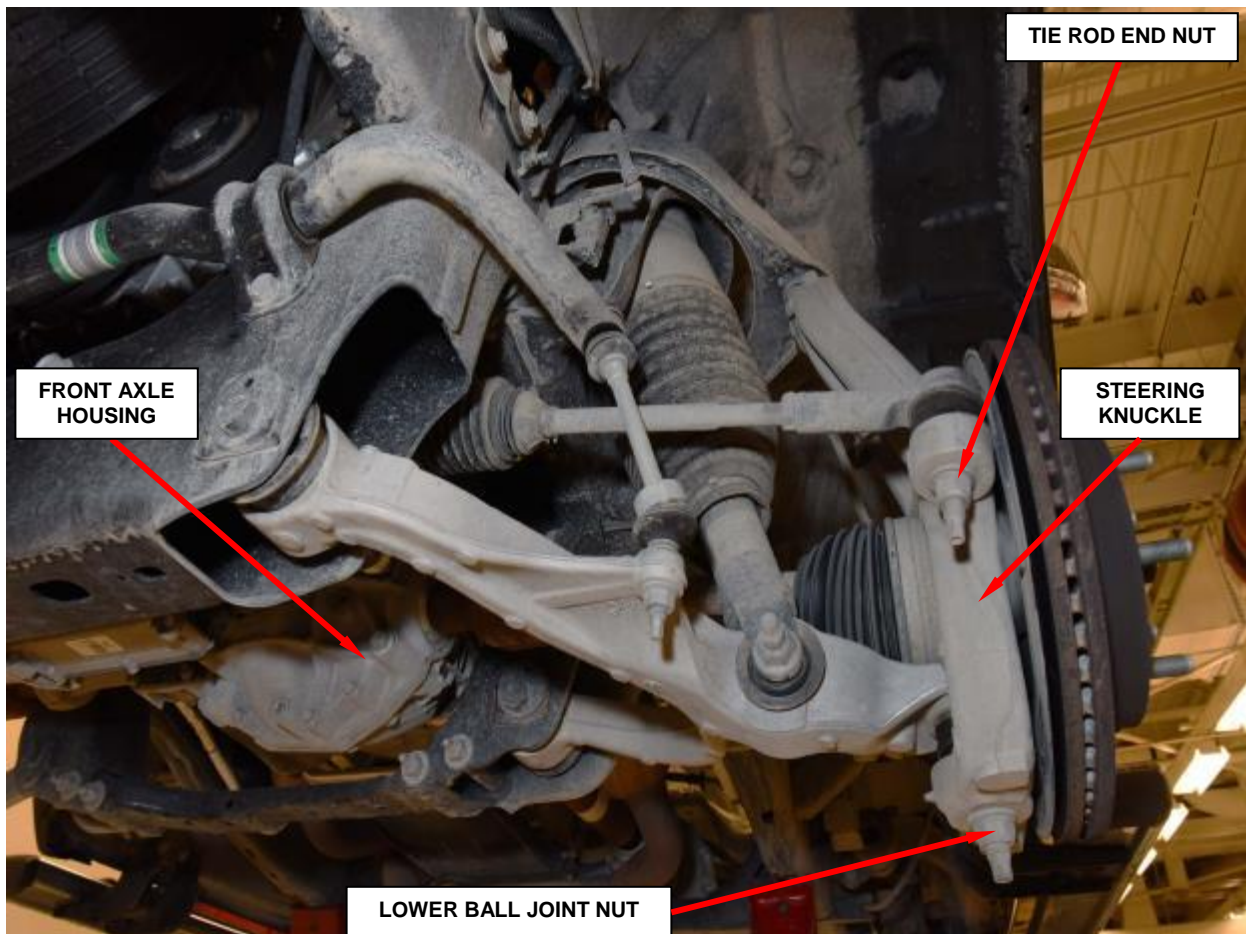

Figure 5 – Lower Ball Joint Nut
- j. Remove and **discard** the lower ball joint nut. Separate the ball joint from the knuckle with Ball Joint Remover 8677 (Figure 5).
- k. Remove the steering knuckle from the vehicle (Figure 5).
- d. Tighten the lower ball joint nut to 38 ft. lbs. Plus 90° (51 N•m Plus 90°) (Figure 5).